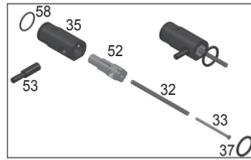

Figure 8: The Rear Bolt Assembly.
- **Front Bolt O-ring** (34)
- **Rear Bolt O-ring** (58, see Figure 8)
- **Linkage Arm** (36)
- **Drive Spring** (32) and **Guide Pin** (33)
- Inspect and lubricate the **Barrel O-ring** (38) and the air/CO2 cylinder valve O-ring with a few drops of oil.